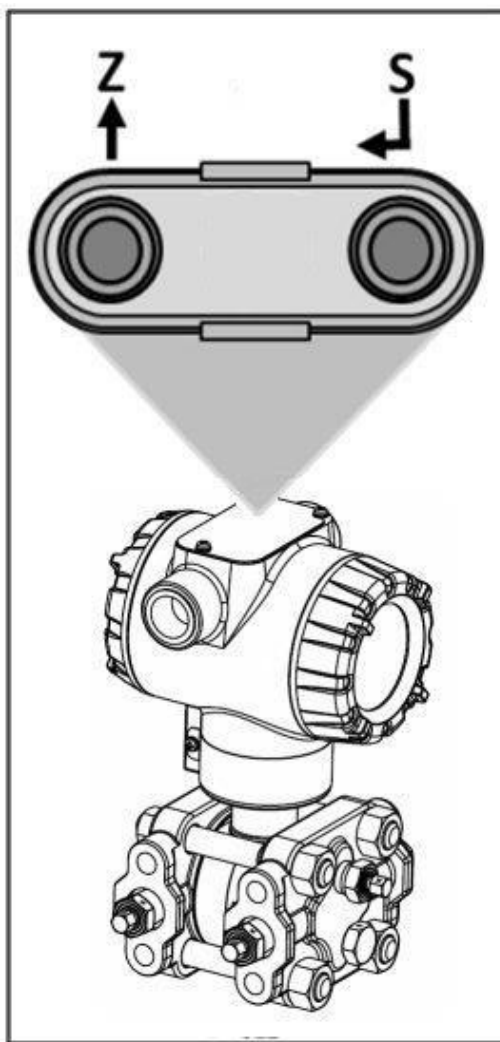

Figure 56 – ST 700 Basic Transmitter - Two-Button Option
1. Refer to Figure 56 for test connections. Verify the integrity of electrical components in the output current loop.